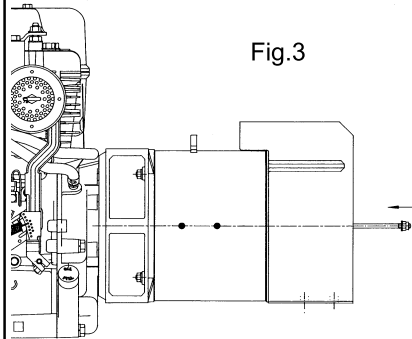

Fig.3
-) insert the central bolt into its housing and screw the nut (figure 3)